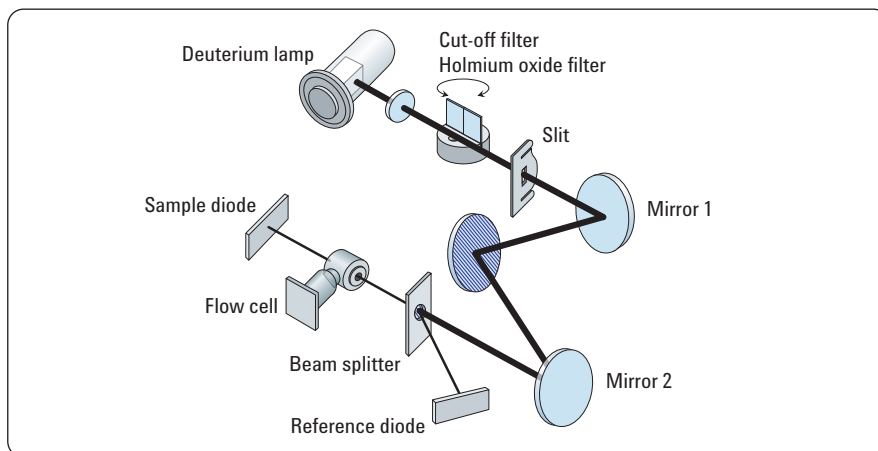

Figure 1
Figure 1 shows the optical system of the Agilent 1260 and 1290 Infinity VWD. Its radiation source is a deuterium-arc discharge lamp for the ultraviolet (UV) wavelength range from 190 to 600 nm. The light beam from the deuterium lamp passes through a lens, filter assembly (in open, cut-off or holmium oxide position), entrance slit (1 mm standard), spherical mirror (M1), grating, a second spherical mirror (M2), a beam splitter, and finally through the flow cell to the sample diode. The beam through the flow cell is absorbed depending on the solutions in the cell, in which UV absorption takes place, and the sample photodiode converts the intensity to an electrical signal. Part of the light is directed to the reference photodiode by the beam splitter to obtain a reference signal for compensation of intensity fluctuation of the light source. A slit in front of the reference photodiode cuts out light of the sample bandwidth. Band width is typically 6.5 nm. Wavelength selection is made by rotating the grating, which is driven directly by a stepper motor. This configuration allows fast change of the wavelength. The cut-off filter is moved into the light path above 370 nm to reduce higher order light.